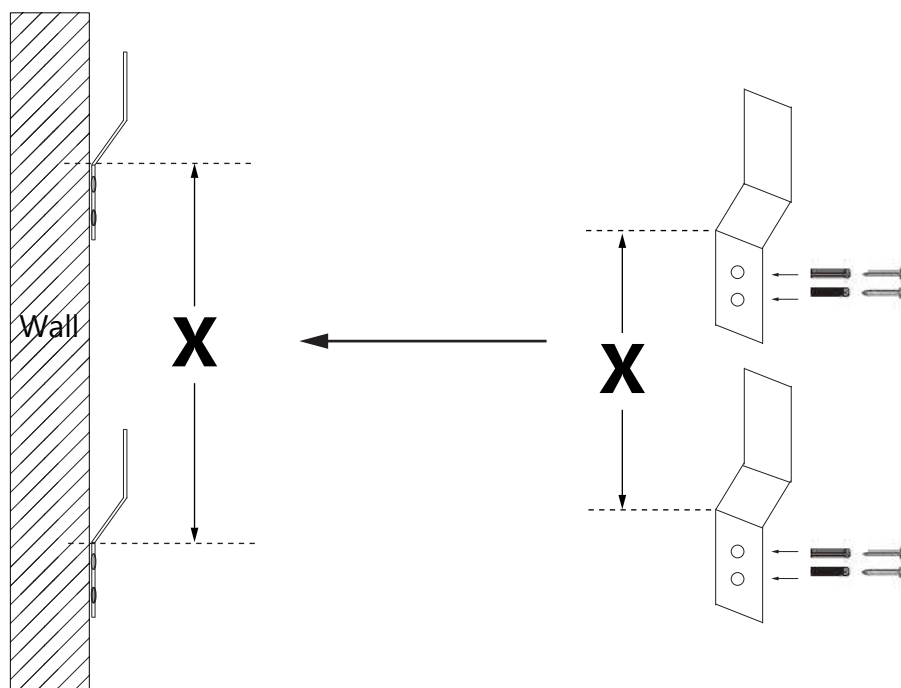

Fig 5
5. Place the **Support Brackets (#02)** just below the lines you just made on the wall, with the bend of the brackets lying on the marks. Mark your screw holes. Drill the holes using a **Ø 5/16"** drill bit. Insert the wall anchors and use the included screws to attach the **Support Brackets (#02)** to the wall. **(Fig 5)**